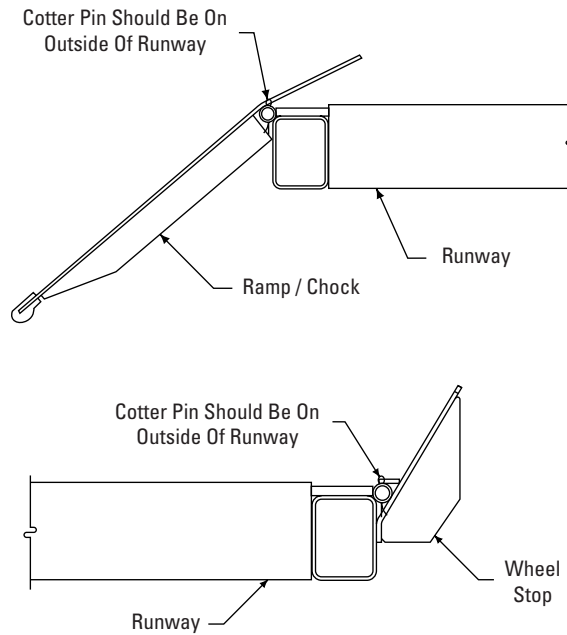

Fig. 30
- 23.** Assemble ramp/chocks to rear of runways using hinge pins and cotter pins, Fig. 30.